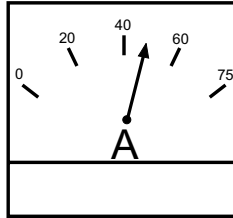

Figure 64. Ammeter (Load)
20. Observe the generator's ammeter (Figure 64) and verify it reads the anticipated amount of current with respect to the load. The ammeter will only display a current reading if the load is in use.